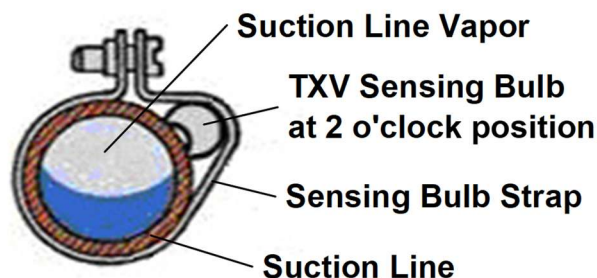

Figure 1.4 TXV Sensing Bulb with Copper Strap at Correct Position on Suction Line
6. For proper control and operation of AC and HP units with a TXV, the TXV sensing bulb must be tightly clamped (with copper straps) to suction vapor line for good thermal contact at 10 or 2 o'clock position of suction line with TXV sensing bulb at its 4 or 6 o'clock position so vapor in sensing bulb can achieve suction line vapor temperature for proper control as shown in **Figure 1.4**. **Make sure sensing bulb strap is tight and completely wrap TXV sensing bulb, strap, and suction line pipe with R1 insulation tape for proper operation.**